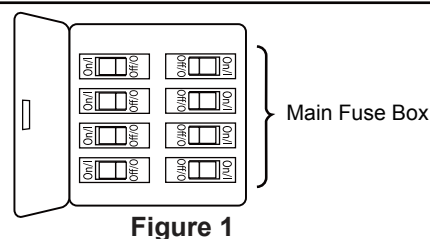
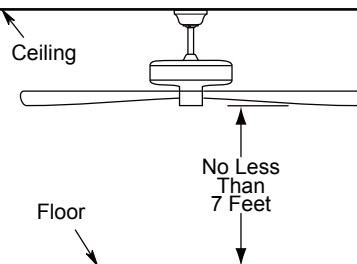
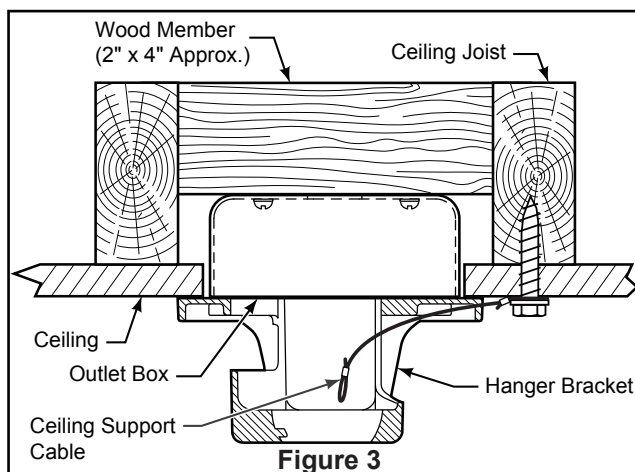

Figure 1
Figure 2
Figure 3
Your new ceiling fan will require a grounded electrical supply line of 120 volts AC, 60 HZ, 15 Amp Circuit. Electrical code requires use of a fan-rated outlet box to support the extra weight and motion associated with a ceiling fan. A fan-rated box will be labeled as such and typically supports up to a 70lb ceiling fan. Fan-Rated Outlet Boxes vary in ratings and design. Ensure the ratings of your ceiling fan outlet box meet the requirements for the ceiling fan being installed. Figure 1, Figure 2 and Figure 3 depicts different structural configurations that may be used for mounting the outlet box.
Low profile box (Figure 1)
Deep box (Figure 2)
Deep box with brace (Figure 3)
1. Remove the hanger ball portion from the downrod/hanger ball assembly by loosening the set screw in the hanger ball until the ball falls freely down the downrod. Remove the pin from the downrod, then remove the hanger ball. Retain the pin and hanger ball for reinstallation in Step 6. (Figure 1)
2. Remove the hairpin clip and clevis pin from the bottom of the downrod. Retain the pin and clip for reinstallation in Step 4. (Figure 2)
3. Loosen the two set screws and locking nuts in the downrod support of the motor housing assembly. Route the brown, blue, red, gray, yellow wires and safety cable through the downrod. (Figure 3)
To avoid possible fire or shock, be sure electricity is turned off at the main fuse box before hanging. (Figure 1)
The fan must be hung with at least 7' of clearance from floor to blades. (Figure 2)
- ☐ 1. Securely attach the hanger bracket to the outlet box using the outlet box screws and washers supplied with the outlet box. (Figure 3)
- ☐ 2. Drill a 1/4" pilot hole into the building structure to prevent splitting or cracking with installation of the lag bolt. Using the 3/8" x 2" lag bolt and flat washer, attach safety cable to ceiling joist or wood structural member. The lag bolt will pass through the flat washer, safety cable loop, and into the building structure. (Figure 3)
NOTE: Ceiling support cable cannot be secured to outlet box only, it must be directly secured to ceiling joist or structural member using the 3/8" x 2" lag bolt and flat washer. (Figure 3)
1. To set the code on receiver unit, slide dip switches to the same positions as set on the remote control. (Figure 1)
To avoid possible electrical shock, be sure electricity is turned off at the main fuse box before wiring. (Figure 2)
2. Slide the receiver into the hanger bracket before wiring as shown in figure 3.
- ☐ 1. Assemble canopy by rotating key slot in canopy over shoulder screw in hanger bracket, taking care not to pinch the wires. Tighten shoulder screw. Fully assemble and tighten second shoulder screw that was previously removed. (Figure 1)
- ☐ 2. Securely attach and tighten the canopy screw cover over the shoulder screws in the hanger bracket utilizing the key slot twist-lock feature. (Figure 2)
1. Secure the three blades using the 1/4"-20 screws and blade plate assembly through the holes located on the bottom of the motor housing assembly. (Figure 1)
2. Position the trim cover onto the blade plate assembly bottom. (Figure 2)
- ☐ 1. IMPORTANT: Using a full range dimmer switch (not included) to control fan speed will damage the fan. To reduce the risk of fire or electrical shock, do not use a full range dimmer switch to control the fan speed. (Figure 1)
- ☐ 2. Restore electrical power to the outlet box by turning the electricity on at the main fuse box. (Figure 2)
- ☐ 3. Remove the battery cover from remote control by screwdriver and retain the screw for later. (Figure 3)